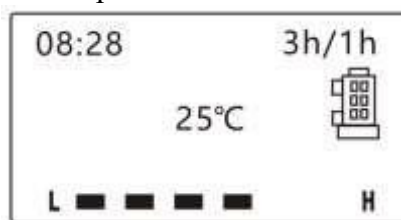

Figure 12
- b. Setting the chlorine output level: 6 levels options. Press  button to increase or decrease chlorine output and shown on small blocks under screen. More bright blocks signify more chlorine output. Maximum is 6 blocks. Shown as figure 12.